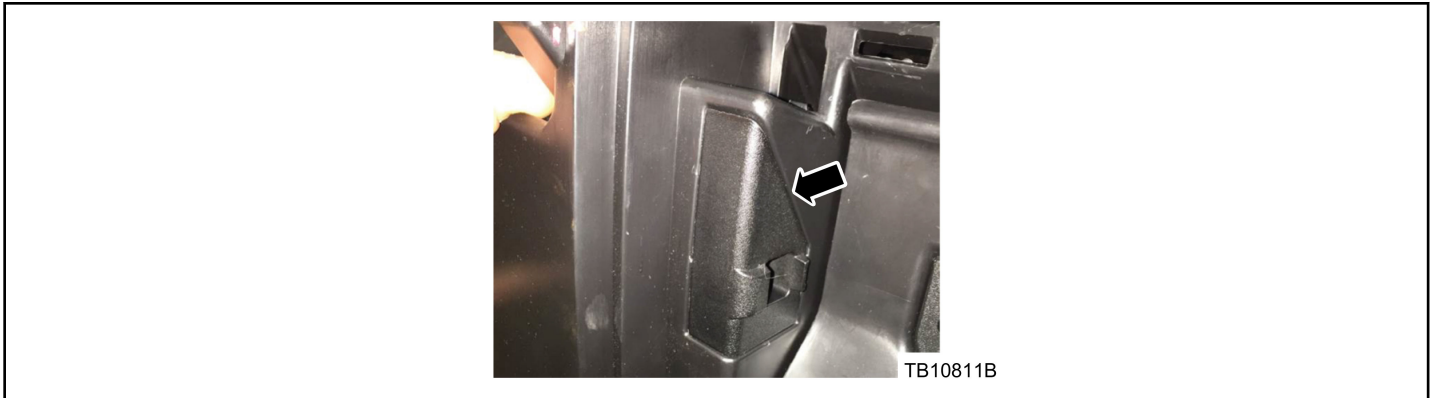

Figure 2 - Article 16-0005
3. Inspect the glove compartment center hooks to make sure they are properly attached to the hinge line of the instrument panel. (Figure 2)
7. Remove the left and right glove compartment strikers. (Figure 2)